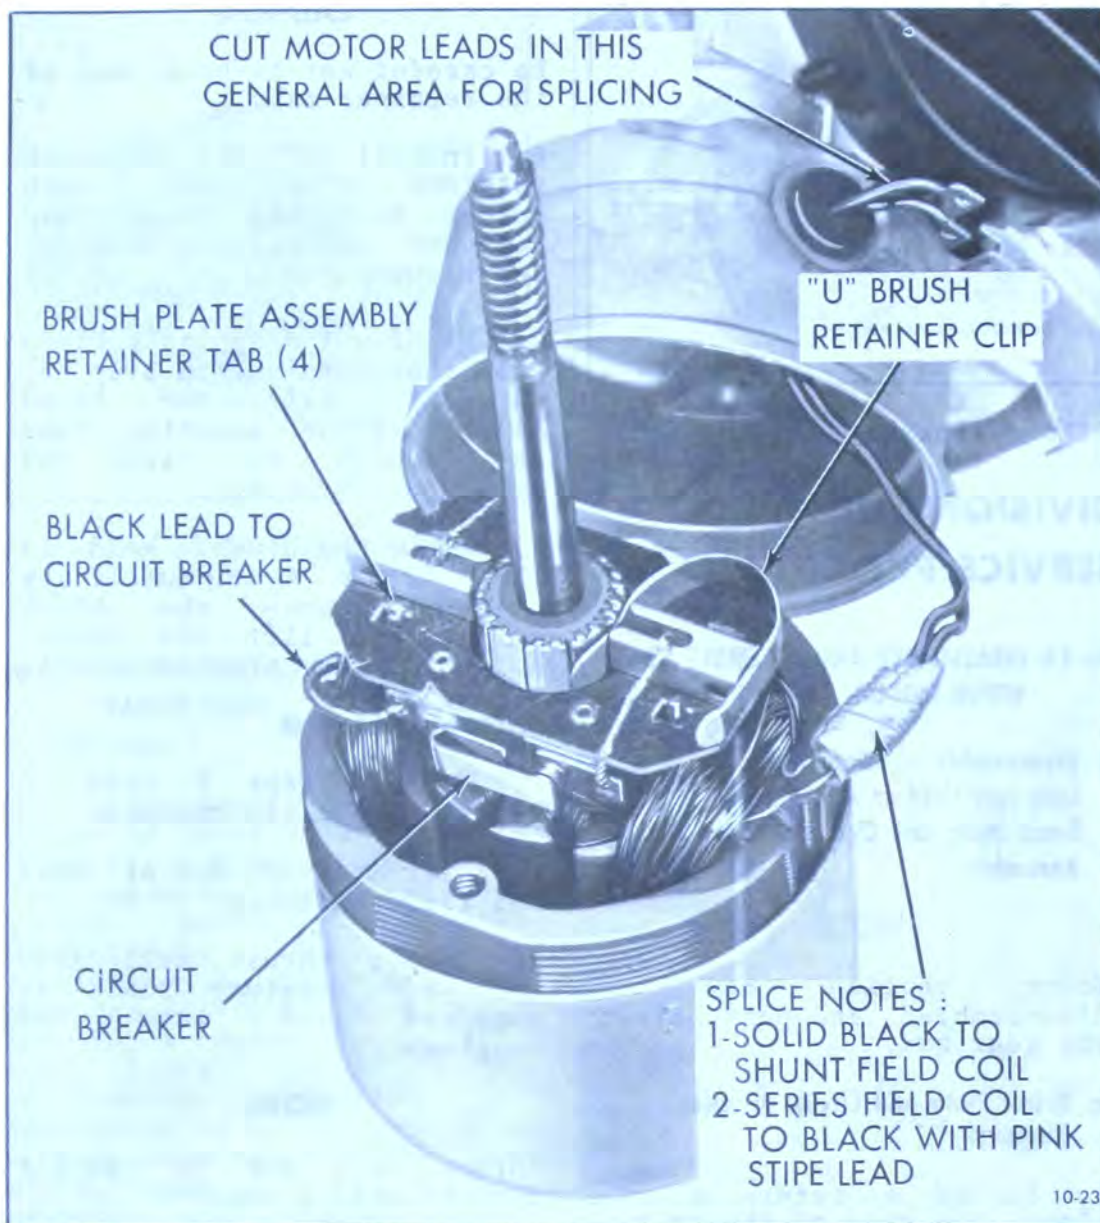

Figure 10-42 Motor Disassembly
4. Unsolder the black lead from circuit breaker. See Figure 10-42.
6. Install "U" shaped brush retainer clip over brush holder that has brush lead attached to circuit breaker. See Figure 10-42.
2. The end case and field assembly is serviced as a unit. To free the field and case assembly, cut the solid black and black with pink stripe leads in a location convenient for splicing - preferably near the wiper terminal board. Refer to Figure 10-42.
then position the brush plate assembly on the mounting tabs in the position shown in Figure 10-42.
7. Remove brush retainer clips and resolder circuit breaker ground lead to circuit breaker. Refer to Figure 10-42.